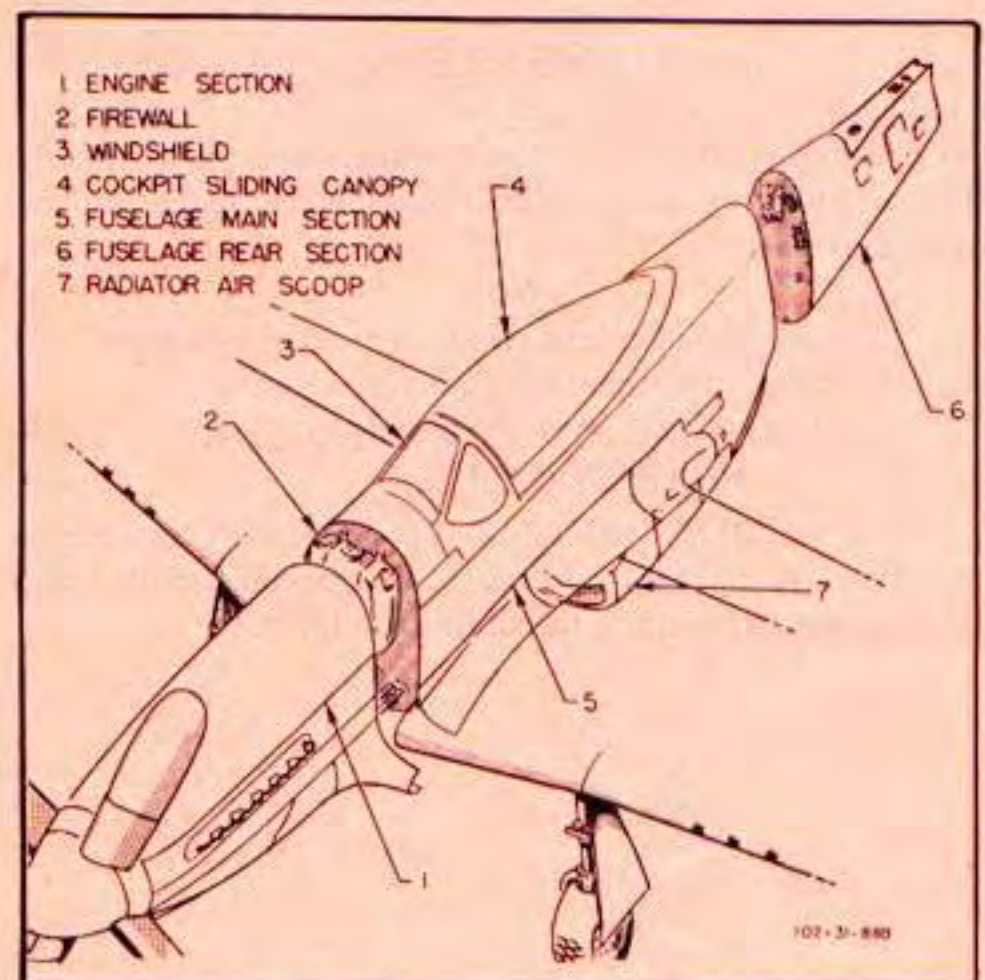

Figure 115—Fuselage Assembly Sections
a. GENERAL DESCRIPTION. (See figure 115.)—The fuselage is semimonocoque in design and, with exception of the armor plate firewall and armor plate aft of the pilot's seat, is fabricated of aluminum alloy. The fuselage is made up of three sections: engine mount (paragraph 7), main section, and rear section, bolted together.
(1) DESCRIPTION. (See figure 115.)—The fuselage main section is constructed around four longerons. The upper longerons, extruded H sections, extend aft from the firewall, and terminate in a tapered form extended full length of the section. The lower longerons, formed by an H section and a rolled U channel bolted together, extend full length of the section. The fuselage is covered with aluminum alloy sheet stock.
(2) FIREWALL.
(a) DESCRIPTION. (See figure 115.)—The firewall is bolted to the forward end of the fuselage main section. The outer rim of the firewall is steel armor plate, and the center is stainless steel sheet formed to provide space for installation of the oil tank.
(a) DESCRIPTION. (See figure 115.)—The cockpit is enclosed by a half teardrop-type canopy, constructed in two sections. The forward section is the windshield, and the rear section is a transparent, sliding enclosure.
1. DESCRIPTION. (See figure 115.)—The windshield consists of two curved, laminated plate glass side panels, and a flat front plate of armor glass.
1. DESCRIPTION. (See figure 115.)—The sliding rear section of the cockpit enclosure is formed from a single sheet of transparent acrylate resin plastic, affording sufficient strength qualities to obviate the use of inner bracing. The design offers maximum unobstructed rear vision. The section is mounted on three trucks which slide on three tracks installed within the fuselage contour lines. Opening and closing the sliding canopy is accomplished by means of a cable and crank assembly operated from the right side of the cockpit. The section locks to each of the three trucks by means of a pin and latch. An emergency release handle is installed in the right forward side of the cockpit, making it possible to jettison the sliding section in any position between closed and full open. An outside emergency release handle is provided on the right side just below the windshield side panel.
(a) DESCRIPTION. (See figure 115.)—The rear section of the fuselage is bolted to the main section just aft of the fuselage lift tube. A solid bulkhead is located at the fuselage rear section to main section attachment station. Provisions are incorporated in the rear section structure for the installation of tail gear and empennage.